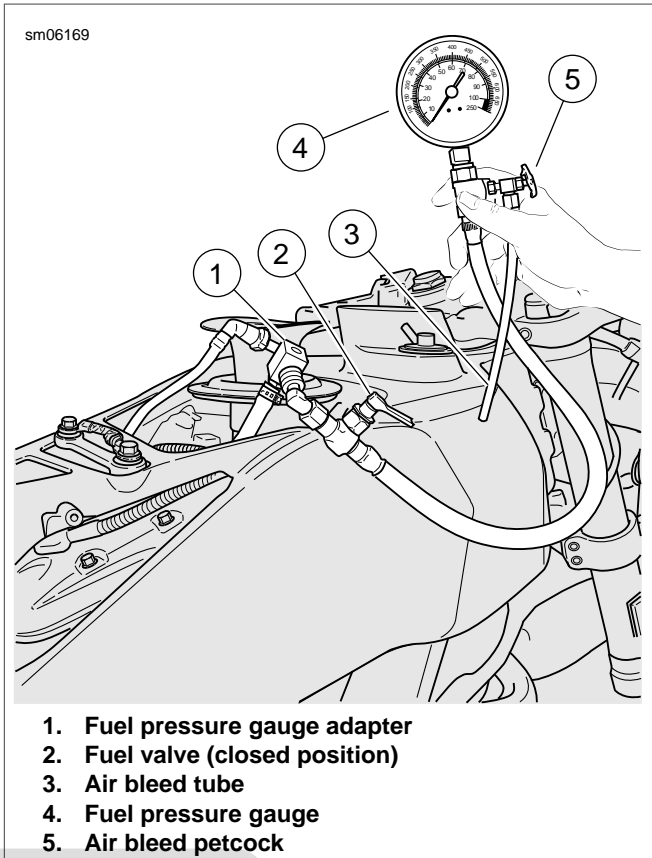

Figure 4-48. Fuel Pressure Gauge
See Figure 4-48. Verify that fuel valve (2) and air bleed petcock (5) on the gauge are closed.
6. Attach FUEL PRESSURE GAUGE (Part No. HD-41182) (4) to fuel pressure gauge adapter (1).
8. See Figure 4-48. Pressurize the fuel system.
- b. Open fuel valve (2) on fuel pressure gauge to allow fuel to flow down the gauge hose.
- c. Position the air bleed tube (3) into proper container.
- d. Open and close the air bleed petcock (5) to purge the fuel pressure gauge and hose of air. Repeat this step several times until only solid fuel (without bubbles) flows from the air bleed tube.
10. See Figure 4-48. Turn engine off. Detach pressure gauge (4) from adapter (1).
- a. Open the air bleed petcock (5) to relieve fuel system pressure and purge the pressure gauge of gasoline.